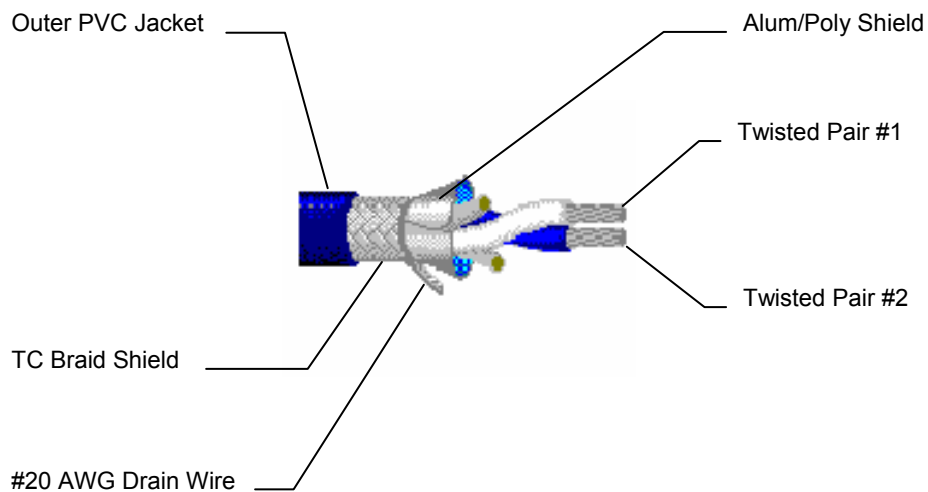

Figure A-1. Belden 9463 Cable Components
The tools for network termination fall into several categories of cable sheath and shield removal, wire insulation removal and wire end dressing. Belden 9463 cable consists of one twisted-pair of insulated wire covered by two layers of shielding and an outer PVC jacket (see Figure A-1). The first shield is an aluminized Mylar shield followed by a 57% tinned copper (TC) braid. In between the two shields lies a #20 AWG drain wire for shield splicing and termination. When terminating, no more than 1.5 inches (38 mm) of the cable, the outer jacket, and shield layers must be removed in the process of baring the drain wire and the twisted-pair. Do not nick the drain wire since any break will affect the shield coverage.